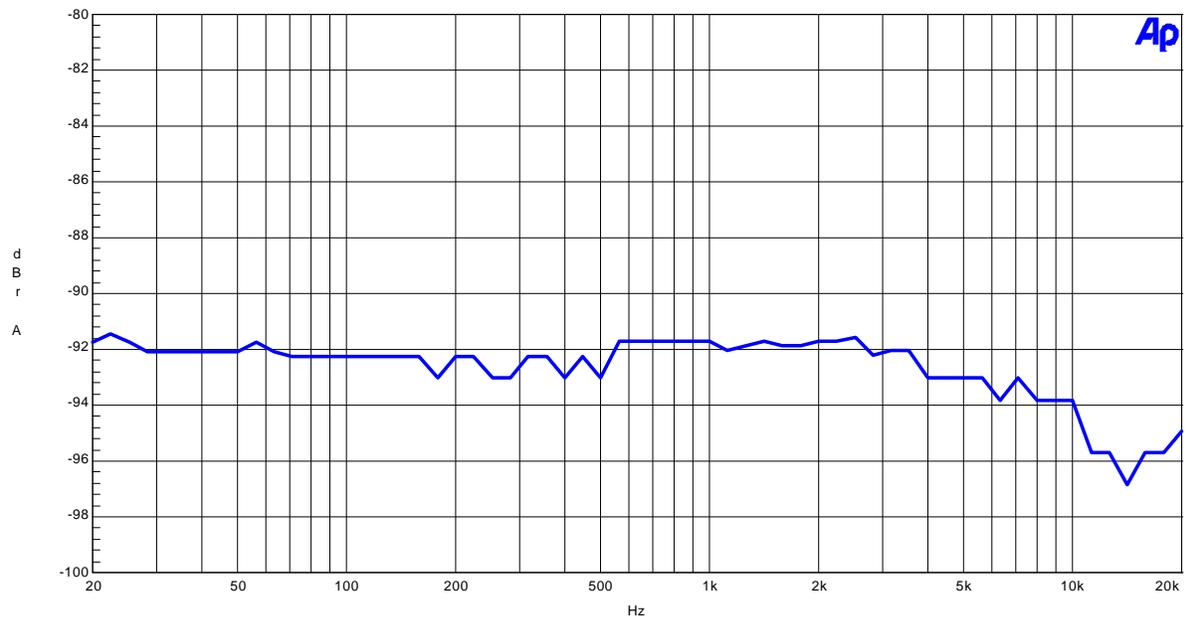

Figure1-6. THD+N vs. Input Frequency (Input level=0dBFS)
- Figure 1-6. THD+N vs. fin (Input Level=0dBFS)